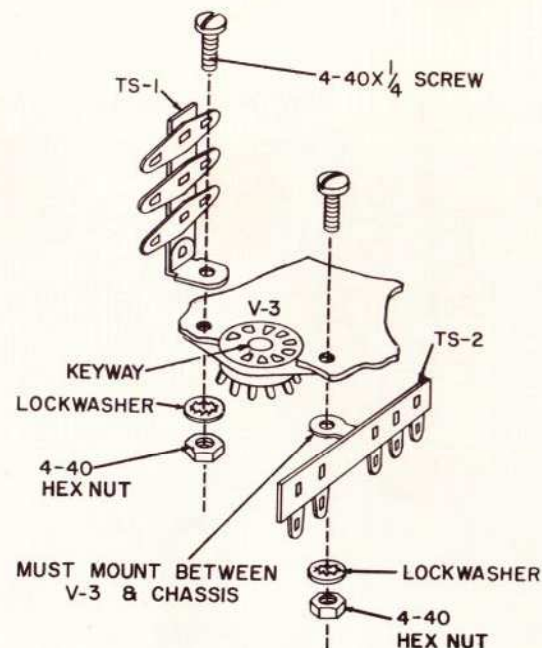

FIGURE 4
- ✓ 9-pin tube socket for V3; TS-1, 3-terminal strip; TS-2, 5-terminal strip. Position the tube socket with the keyway as shown. Position TS-2 between the tube socket and chassis. Fasten these parts with a 4-40 × ¼" screw, lockwasher, and nut. See Figure 4. Mount TS-1 to the top of the chassis. Insert a 4-40 × ¼" screw through the terminal strip and other side of tube socket. Fasten with a #4 lockwasher and nut.